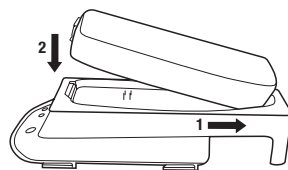

Fig. 2
4. Battery charging: Ensure the gold electrical contacts on the battery and charger are clean, dry and free of debris. Insert the battery pack into the 3M™ Battery Charger Cradle TR-340 by sliding the back end of the battery pack in first. Set front end down and click into place (Fig. 2), charging will begin.